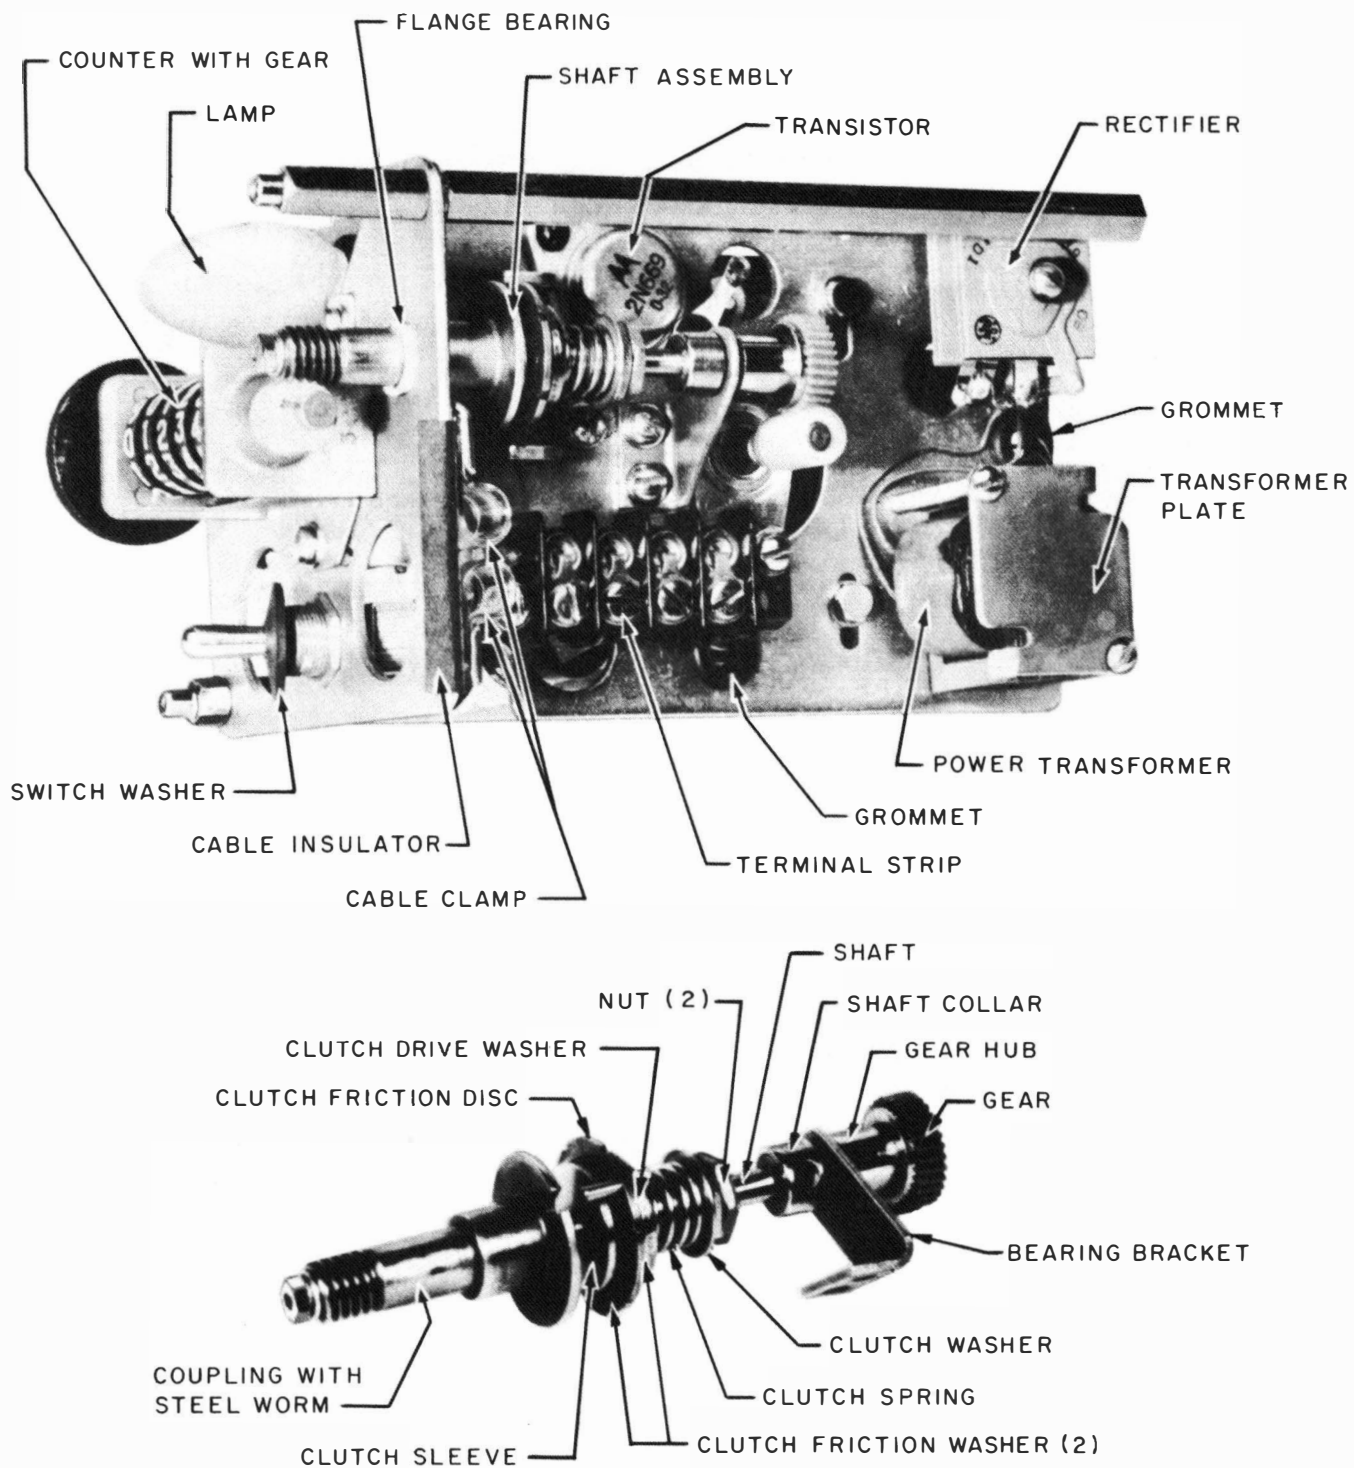

Figure 1 - Left-side Frame Components
3.05 Figures 1 and 2 show the locations of the component parts of the word counter.